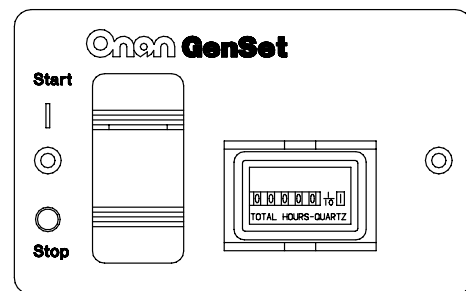

FIGURE 2-3. REMOTE SWITCH / HOUR METER
- Remote switch with status indicator light and hour meter (Figure 2-3).